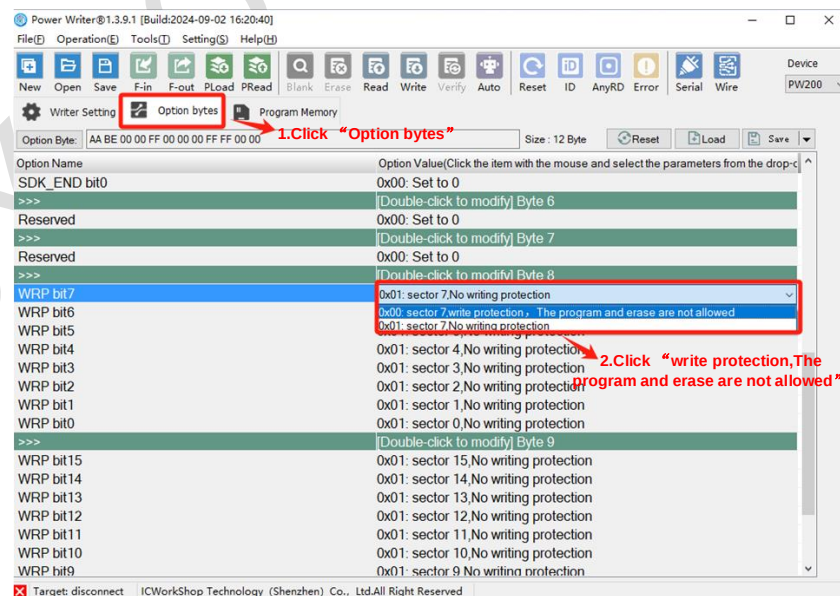
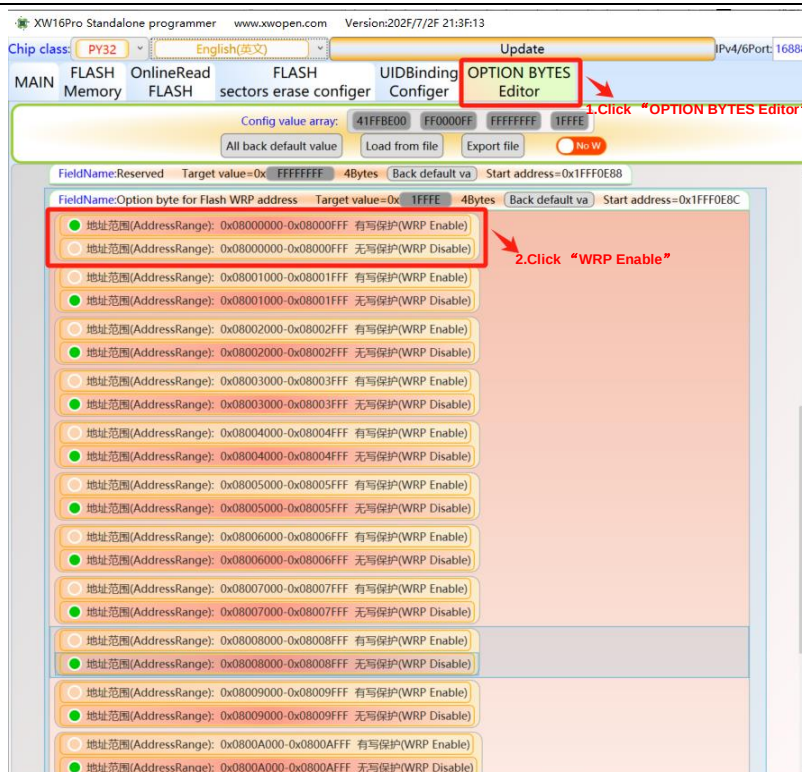

Figure 14-1 Power Write Operation Option Write Protection
Figure 14-2 XW operation Option write protection
- It is recommended that the customer program enables write protection, which is set in Option, as shown in Figure 14-1 and Figure 14-2.